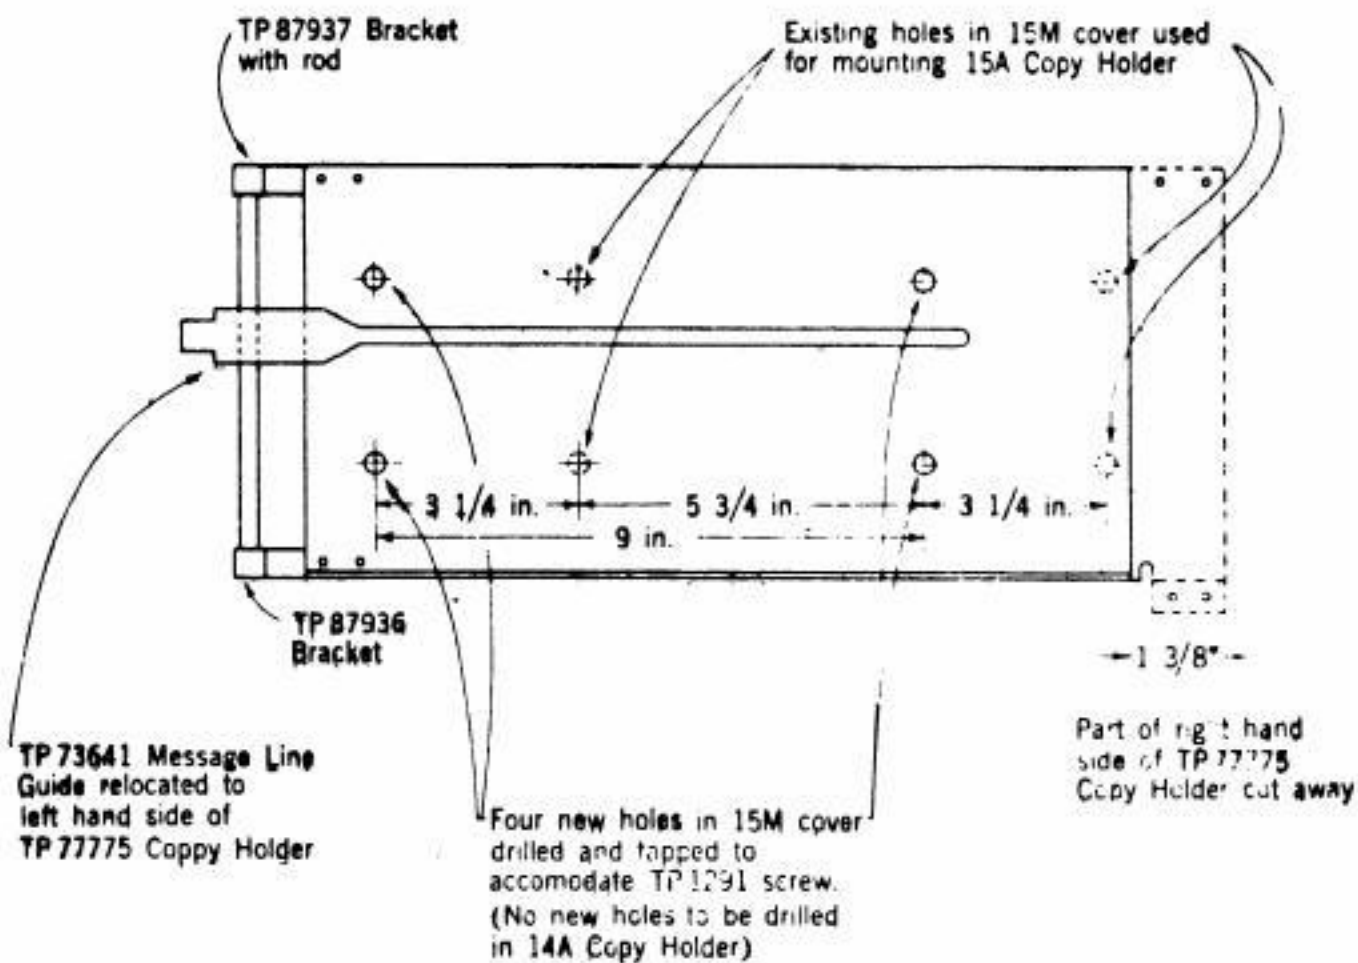

FIG. 1
- 3.04 Relocate the TP87936 and TP87937 bracket on the left-hand side of the TP77775 copy holder, as shown in Fig. 1, by using the brackets as templates and drilling holes to accommodate the TP1294 screws used in mounting the brackets.
- 3.07 With the 15A copy holder mounted on the cover, drill and tap four new holes in the cover as shown in Fig. 1. The two new holes at the right should be drilled and tapped through the mounting plate of the 15A copy holder. The two new holes to the left will be in the cover only.
4.01 Figures 1 and 2 are reproduced from Drawing S-9661-143.